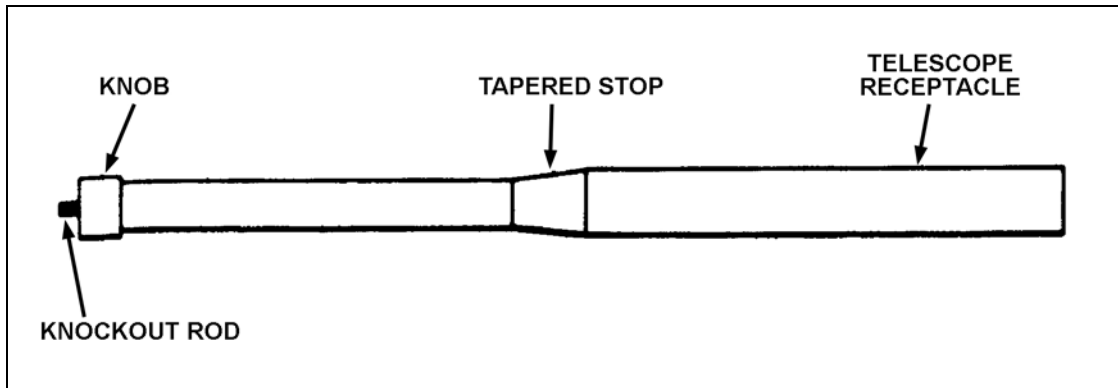

Figure B-6.
c. **Older 25-mm Adapter.** Figure B-6 shows the older 25-mm adapter (PN 12524010). The knob inserts into the 25-mm gun barrel. The adapter is fully inserted when the tapered stop contacts the end of the gun barrel. Insert the adapter slowly with a slight twisting motion to keep it from locking in the barrel. The adapter is fully inserted when the tapered stop contacts the end of the gun barrel.